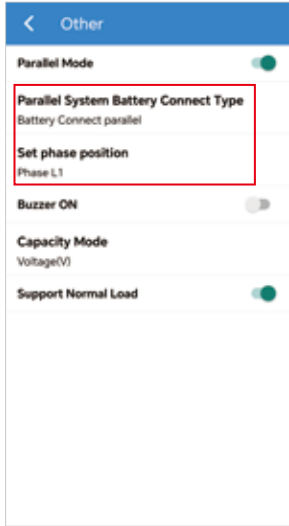

Figure 4-4 Inverter 1-Phase L1
3. Go to Console > Hybrid Setting > Other to enable parallel mode, and then select the appropriate battery connection type and phase position. All inverters in the system should be configured with these parameters, as shown in *Figure 4-4--4-6*.